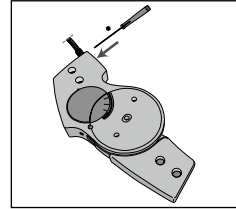

Fig. 8
7. Loosen the Cone Point Safety Screw on the side of the joint, two turns will do (see Fig. 8). Do not remove the screw from the joint.
18. Tighten the Cone Point Safety screw back in the joint (see Fig. 8).